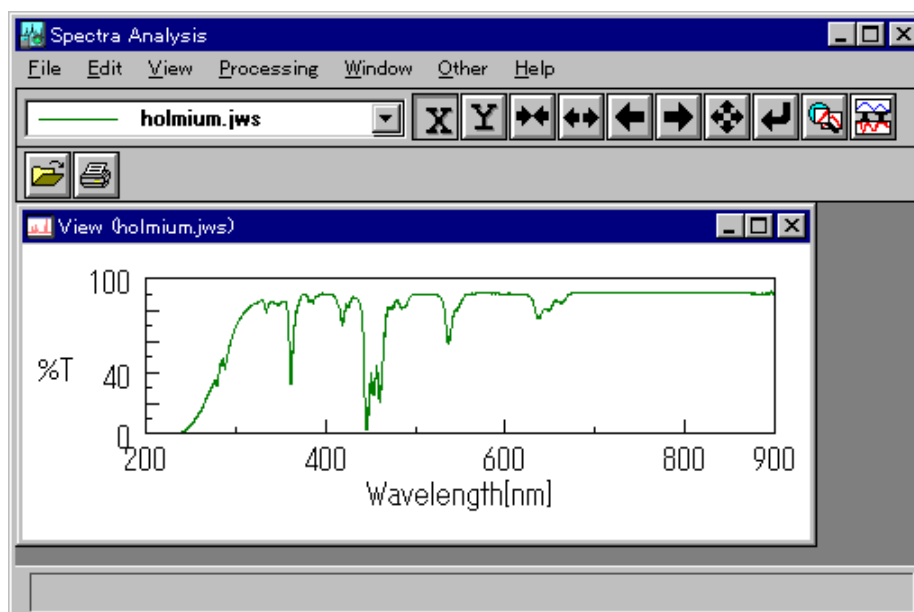

Fig. 3.6 [Spectra Analysis] window
- (5) Finally, click the  button to open the currently selected file. The [Spectra Analysis] program starts, as shown in Fig. 3.6 and a new view opens, displaying the specified spectrum.
Opens the currently selected data file in the filename display area. If not already running, the [Spectra Analysis] program starts and the file is displayed in a new view (see Fig. 3.6).